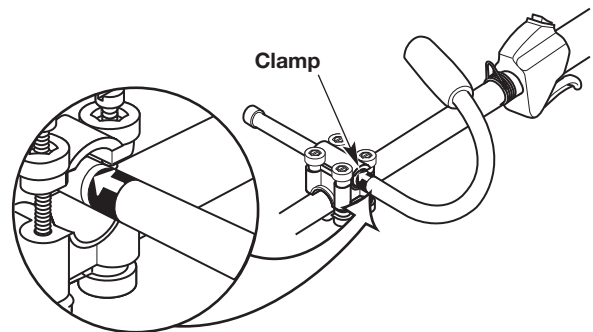

Fig. 3
5. Hold the unit in the operating position (Fig. 21) and slide the handle in or out of the clamp until the arrow/line on the decal touches the clamp (Fig. 3).